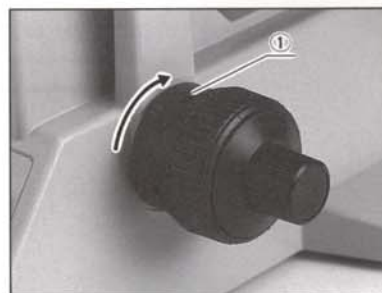

Fig. 3
- ① Lens surfaces must always be kept clean. Fine dust on lens surfaces should be blown off by means of hand blower. Carefully wipe off oil or fingerprints on the lens surfaces with gauze moistened with a **small** amount of alcohol and ether (3 : 7) mixture, or xylene.
- ② Do not use organic solutions to wipe the surfaces of various components. Plastic parts, especially, should be cleaned with a neutral detergent.
- ③ Be careful not to spill the culture solution, etc. If spilled, it should be wiped off immediately.
- ④ When objectives are not screwed into the nosepiece apertures, seal the apertures with dust plugs, which will protect the lenses located in the lower light path from dust, culture solution, etc.
- ⑤ When not in use, the microscope should be covered with the dust cover provided.
- ⑥ A tension adjustment ring ① is provided next to the coarse focus adjustment knobs. With this device the tension of the coarse adjustment is freely adjustable for either heavy or light movement, depending upon operator preference. (Fig. 3)